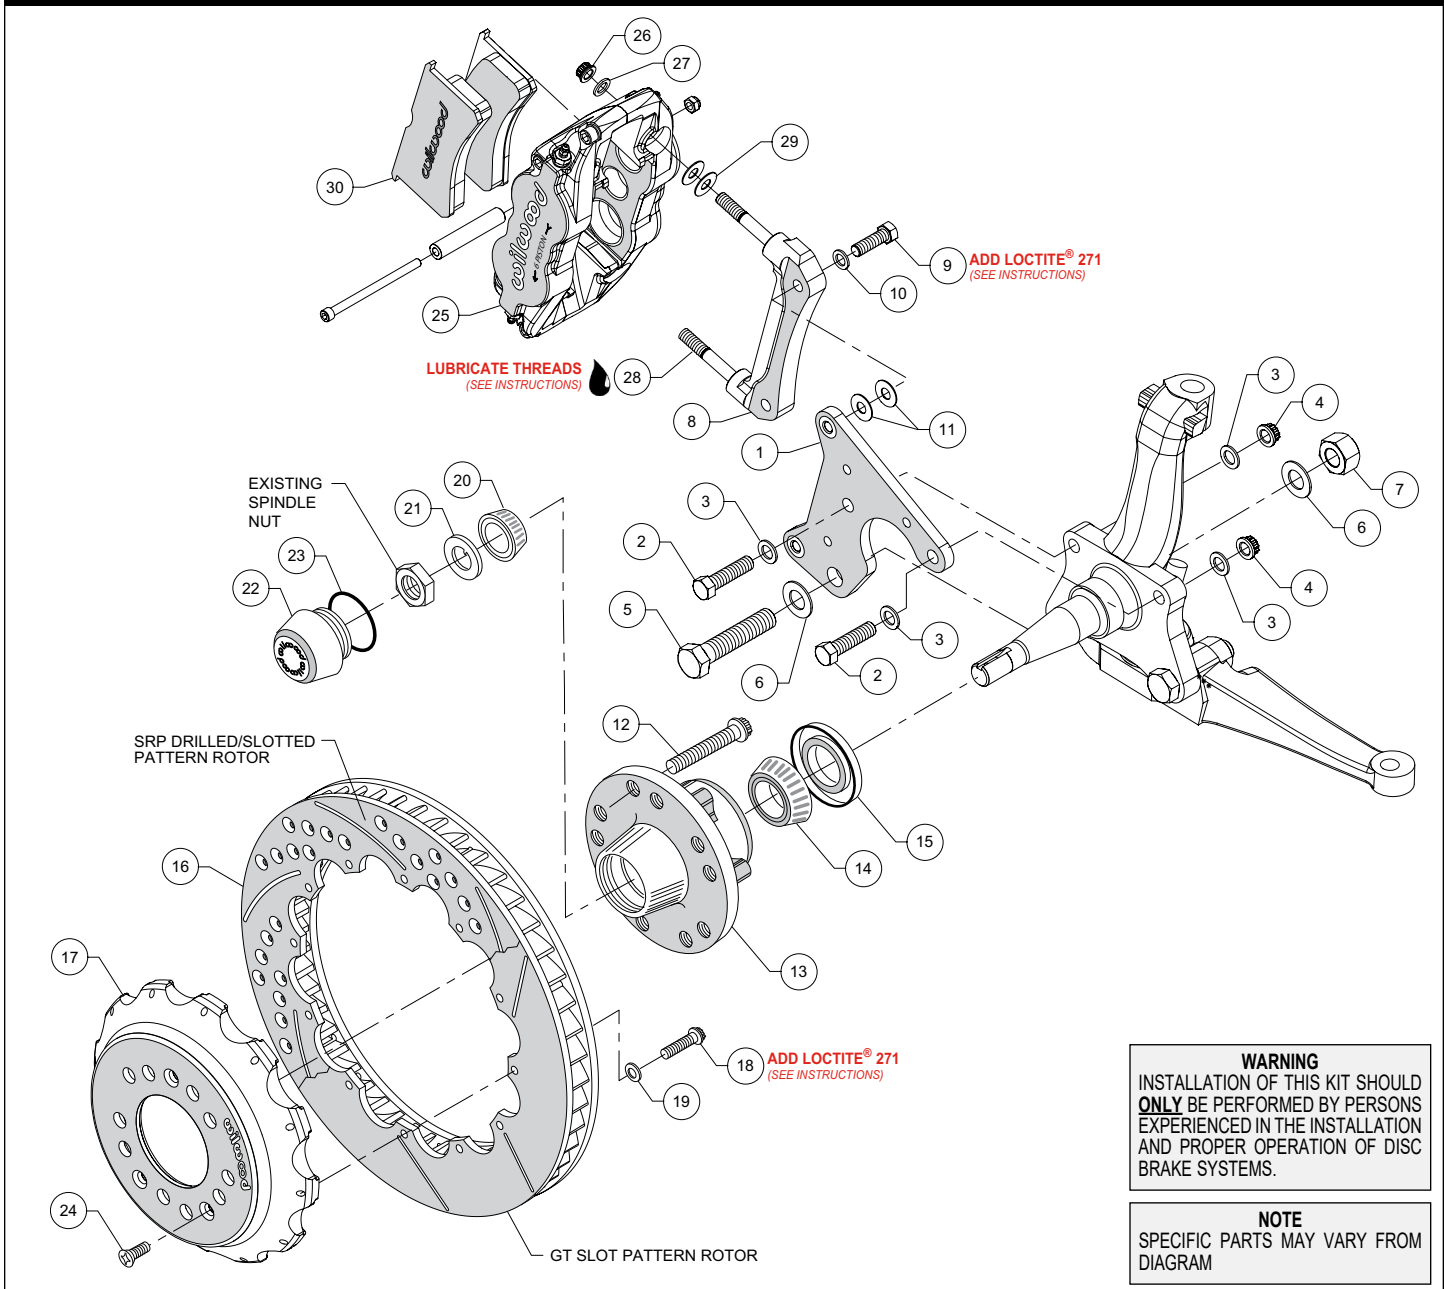

Figure 1. Typical Installation Configuration
NOTE: Numbers in parenthesis refer to the parts list and Figure 1 on the preceding pages.
- Orient the spindle bracket (1) as shown in Figure 1 and Photo 1, and install using bolts (2), washers (3), and nuts (4) on the top holes and bolt (5), washers (6), and nut (7) on the bottom hole, Figure 1 and Photo 1. Temporarily tighten the mounting bolts. Ensure that the flanged heads of the clinch nuts in the bracket are facing outboard, Photo 1. **NOTE:** The bracket must fit squarely against the mounting points on the spindle. Inspect for interference from casting irregularities, machining ridges, burrs, etc. Torque nuts (4) to 47 ft-lbs. and nut (7) to 140 ft-lbs.
- The caliper mount radial bracket (8) should initially be installed with clean, dry threads on the mounting bolts. Orient the bracket as shown in Figure 1, and Photo 2. Install onto the spindle bracket using bolts (9), and washers (10). Initially place two .035 thick shims (11) on each bolt between the radial and spindle brackets, Figure 1. Temporarily tighten the mounting bolts. Later, after the caliper alignment has been checked, the mount bolts will be secured using red *Loctite*® 271.
- Install wheel studs (12) into the hub (13), Photo 3. Torque to 77 ft-lb. **NOTE:** There are two five lug patterns in the hub (5 x 4.50 and 5 x 4.75). Ensure the correct hub stud pattern is being used to fit the wheel application.
- Pack the large inner bearing cone (14) with high temperature disc brake bearing grease (available from your local auto parts store) and install into the backside of the hub (13), Photo 4.
- Install the grease seal (15) by pressing into the backside of the hub (13), flush with the end of the hub, Photo 4.
- Orient the rotor (16) and the hat (17) as shown in Figure 1 and Photo 5. Attach rotor to hat using bolts (18) and washers (19). Apply red *Loctite*® 271 to the bolt threads and torque to 155 in-lb
- Screw dust cap (22) into hub (13), Photo 7. Friction created by the o-ring (23) on the dust cap keeps it from unscrewing. **NOTE:** *The O.D. of the existing OEM spindle washer may be larger than the I.D. of the dust cap not allowing it to seat against the hub face. Therefore, use the spindle washer (21) supplied with the kit instead of the OEM washer.*
- Slide the hat/rotor assembly (16/17) onto the hub (13) taking care to align the small countersunk holes in the hat with the small threaded holes in the hub. **NOTE:** *The hat must fit flush against the hub face or excessive rotor run out may result.* Install three flat head screws (24) through the small holes in the hat, Photo 7, and torque to 85 **in-lb**.
- NOTE:** *This kit contains distinct right and left hand calipers that must be mounted in a specific direction, as described below.* Lubricate the caliper mounting studs (28) with lightweight oil. Initially place two .035" thick shims (29) on each stud between the caliper and the bracket, as shown in Figure 1 and Photo 8. Mount the caliper (25) onto the bracket (8) using lock nuts (26) and washers (27), Figure 1. Ensure that the caliper is mounted so the largest pistons are at the rotor exit end of the caliper, in relation to the direction of rotor rotation. Temporarily tighten the lock nuts and view the rotor through the top opening of the caliper. The rotor should be centered in the caliper, Photo 9. If not, adjust by adding or subtracting shims (11) between the spindle bracket (1) and the caliper mount bracket (8). Always use the same amount of shims on each of the two mounting bolts. Once the caliper alignment is correct, remove the radial bracket mounting bolts one at a time, apply red **Loctite**® 271 to the threads, and torque to 40 ft-lb. **NOTE:** *The end of the bolts must be flush with, or protruding through, the head of the clinch nut.*